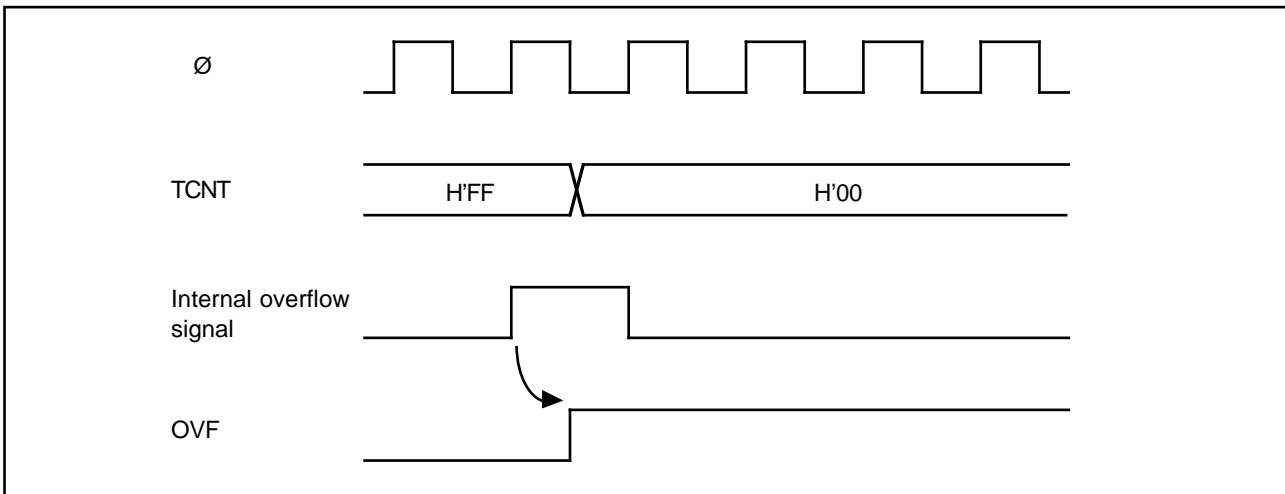

Figure 8-10. Setting of Overflow Flag (OVF)
(1) Setting of TCSR Overflow Flag (OVF): The overflow flag (OVF) is set to 1 when the timer count overflows (changes from H'FF to H'00). Figure 8-10 shows the timing of this operation.